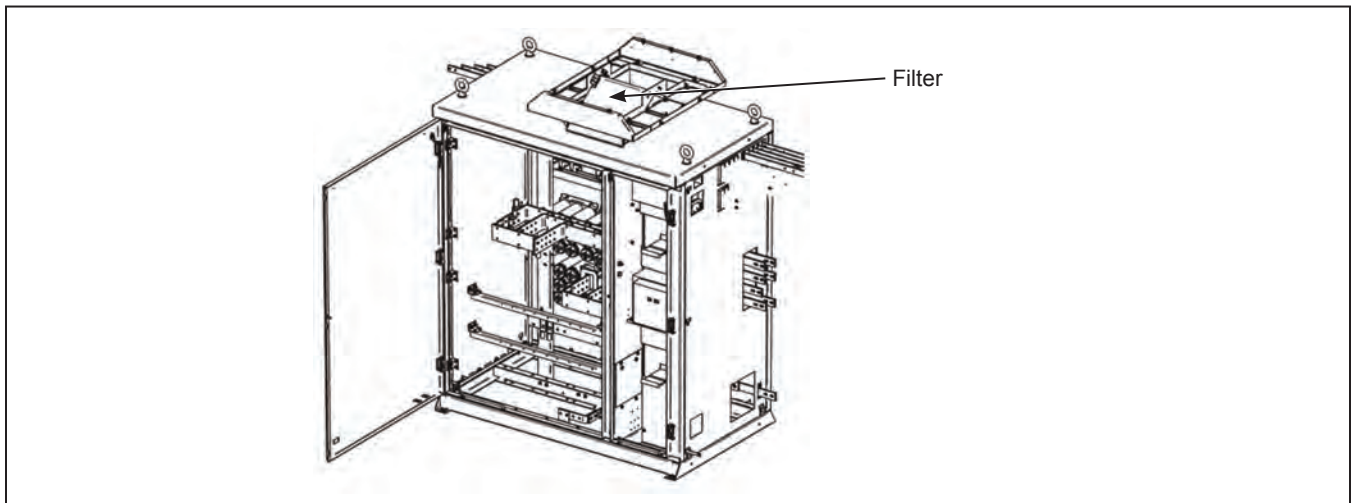

Figure 28. Location of the air-inlet vent filter.
- ☐ Inspect the air-inlet filter for debris and obstructions that can cause air-flow restrictions. The filter can be replaced by unbolting the top of the air-inlet vent hood with a wrench and screwdriver. When the hood is opened, the filter must be bent into place and secured by the clips provided. The white part of the filter should face up and the pink part of the filter should face down into the switchgear bay. See Figure 28.